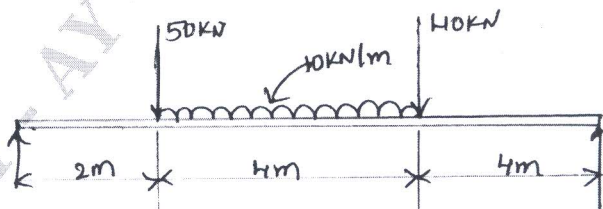

Fig.Q6
- 6 Draw the shear force diagram and bending moment diagram for the beam shown in Fig.Q6. Calculate the maximum bending moment.